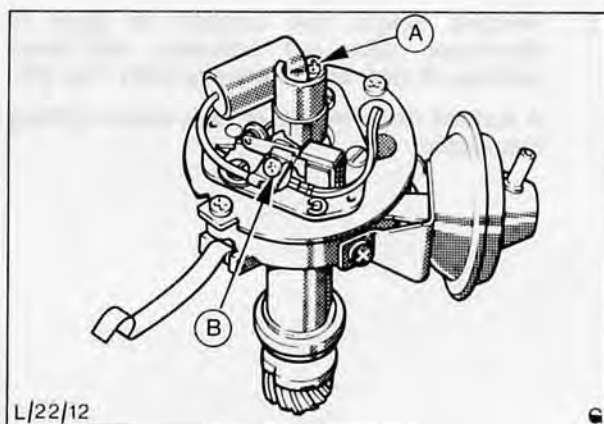

Fig. 37. Condenser removal
2. Slacken condenser lead retaining screw and lead. Unscrew condenser retaining screw and remove condenser, Fig. 37.